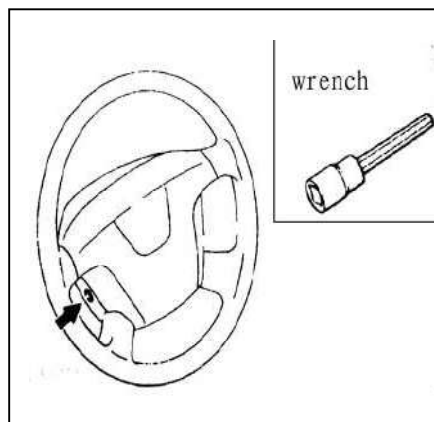

Fig 17-13
2) Loosen the bolt completely.Then, remove the steering wheel and airbag module assembly. (See fig 17-13)